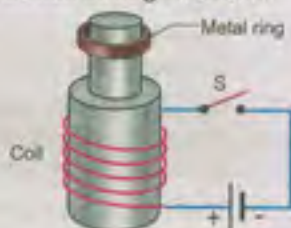

Fig. Q. 15.6
- 15.6 When the switch in the circuit is closed a current is established in the coil and the metal ring jumps upward (Fig.Q.15.6). Why? Describe what would happen to the ring if the battery polarity were reversed?